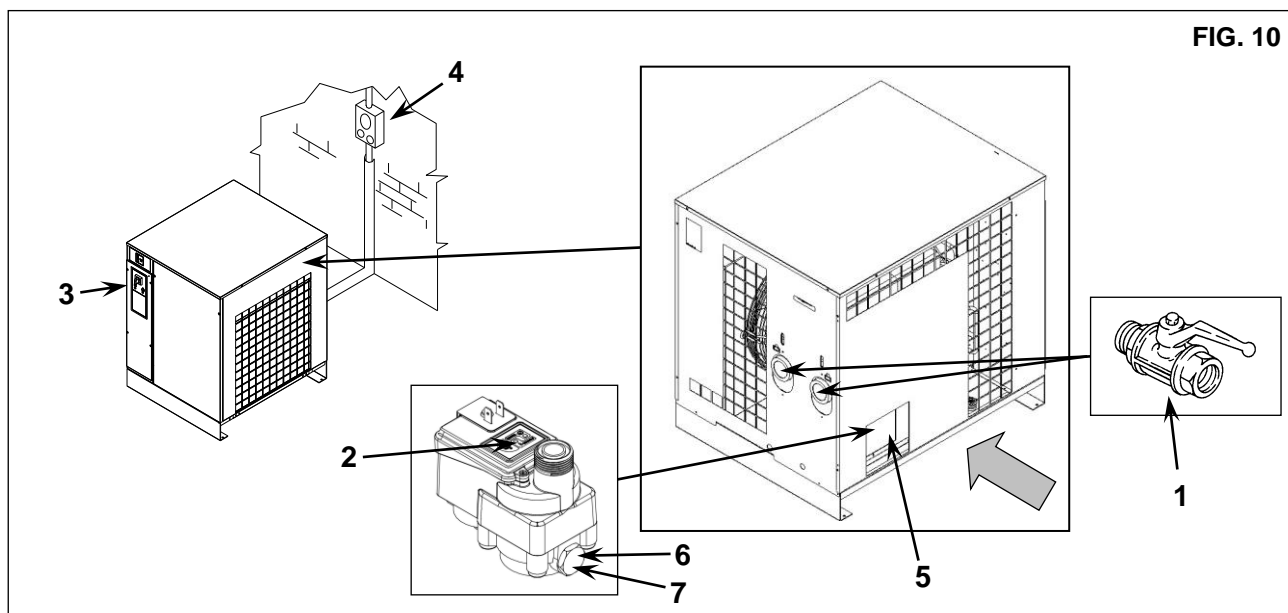

FIG. 10
16.2 CLEANING OF THE AUTOMATIC CONDENSATE DISCHARGER FILTER (Fig. 10)
- Close the cock Ref. 1 Fig. 10
- Release the pressure in the dryer by pressing the condensate drain "TEST" pushbutton located on the steam trap Ref. 2 Fig. 10.
- Switch off the machine. Turn the switch in position STOP Ref. 3 Fig. 10
- Turn on the supply automatic differential switch Ref. 4 Fig. 10
16.3 CLEANING THE CONDENSER (Fig. 10)
- To use the hole Ref. 5 Fig. 10
- Clean the condenser fins Ref. 1 with compressed air (Fig. 10) **DO NOT USE WATER OR SOLVENTS**
- Close the panels Ref. 5 Fig. 10